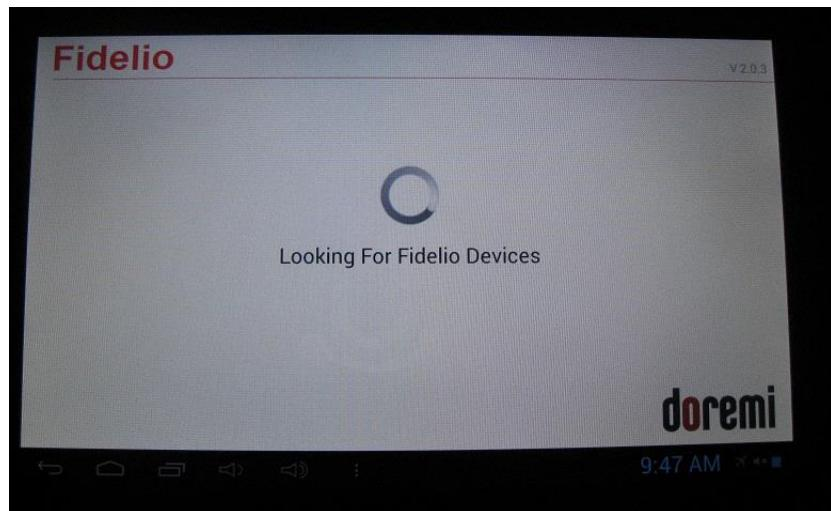

Figure 25: Looking for Fidelio Devices Screen
- At first you will see a message saying, “Looking for Fidelio Devices” (Figure 25).
- The tablet will display a message saying, “Looking for Fidelio Devices” (Figure 25).